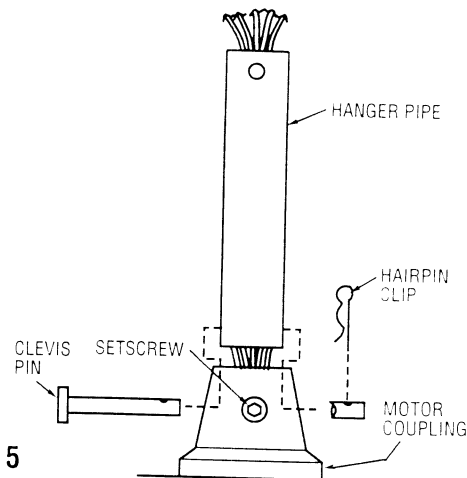

Figure 5
- Align the clevis pin holes in the hanger pipe with the holes in the motor coupling. Install the clevis pin and secure with the hairpin clip. The clevis pin must go through the holes in the motor coupling and the holes in the hanger pipe (Figure 5). Push the straight leg of the hairpin clip through the hole near the end of the clevis pin until the curved portion of the hairpin clip snaps around the clevis pin. The hairpin clip must be properly installed to prevent the clevis pin from working loose.
- Install the setscrew (supplied in loose parts bag supplied with ceiling fan) in the motor coupling and tighten using the 5/32" setscrew wrench (supplied with ceiling fan). **A loose setscrew could cause the fan to wobble.** (Figure 5.)